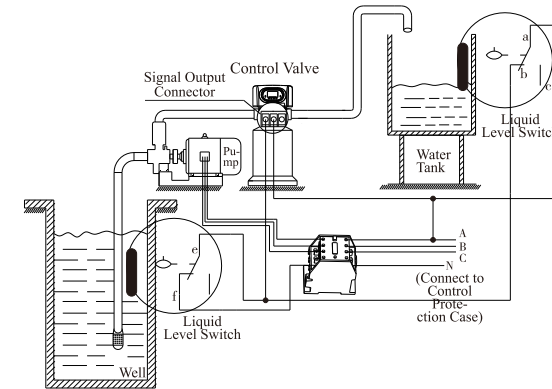

Figure 3-6 Wiring of Liquid Level Switch in Water Tank Controls 380V Inlet Pump
3) Liquid Level Switch in Water Tank Controls Inlet pump (Three-phase, as Figure 3-6) (Set b-01)